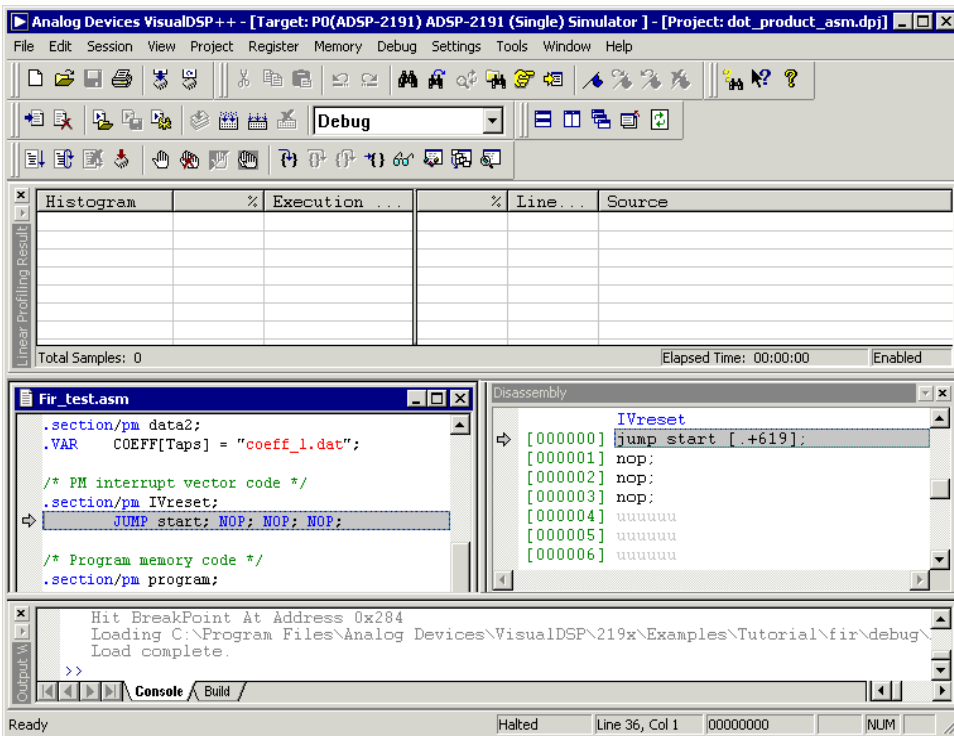

Figure 3-32. Linear Profiling Results Window (Empty)
2. From the View menu, choose Debug Windows. Then choose Linear Profiling Results to open the Linear Profiling Results window, shown in Figure 3-32.